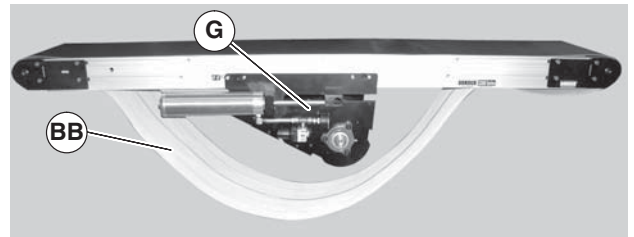

Figure 28
11. Remove belt (Figure 28, item BB) from center drive module (B) and conveyor.